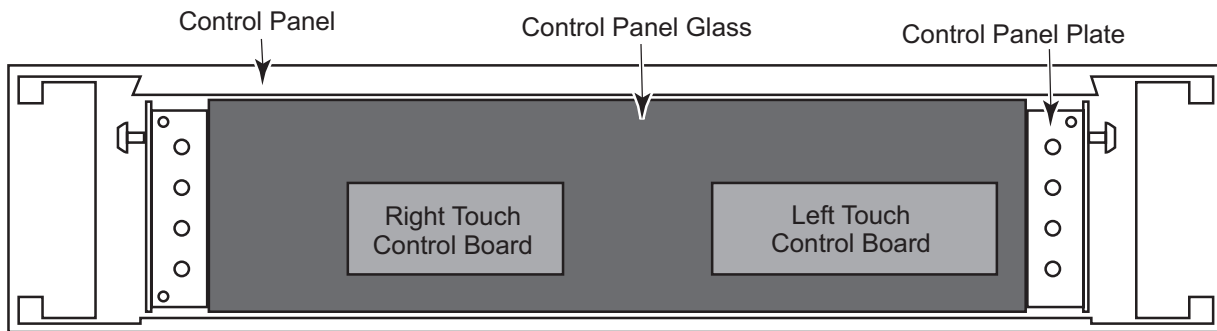

Figure 16B
5. **To remove the glass and two touch control boards**, lift the glass off the control panel (see Figure 16B). NOTE: The touch control boards are part of the glass and must be replaced with the glass.